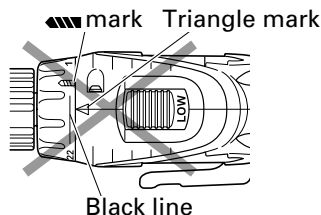

Fig. 17
- Do not use with the clutch dial numeral between "22" and the line at the middle of the drill mark "▲". Doing so may cause damage (See Fig. 17).